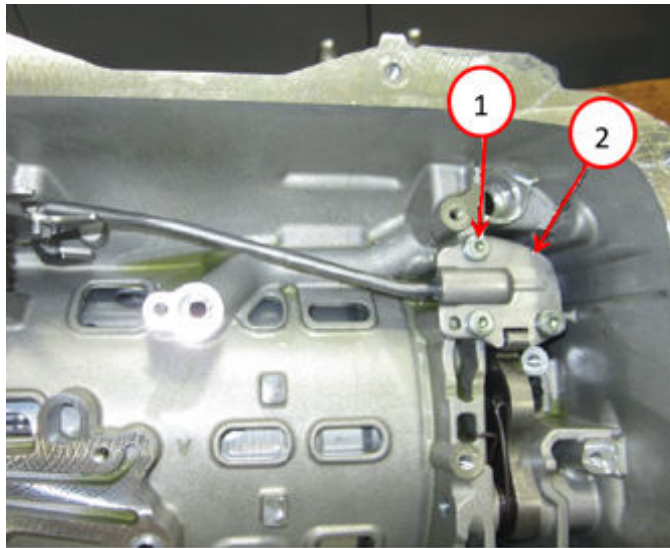

Fig. 36
53. Install the park pawl lock rod onto the fork Fig. 36.